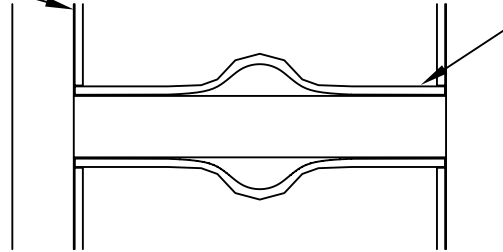

FIGURE 1
STEP B: Install gaskets on the side of frame opposite glass stops first. Insert gaskets into the horizontal members first, starting at the ends and work toward the center as shown. Install vertical gaskets into the same side of frame after horizontal gaskets are in place, in the same manner. (Figure 1)
- STEP C:** At all intermediate horizontal water deflectors, cut the dart back leg off of exterior weathering (Figure 1). This will create a weep slot after the horizontal cover is installed.